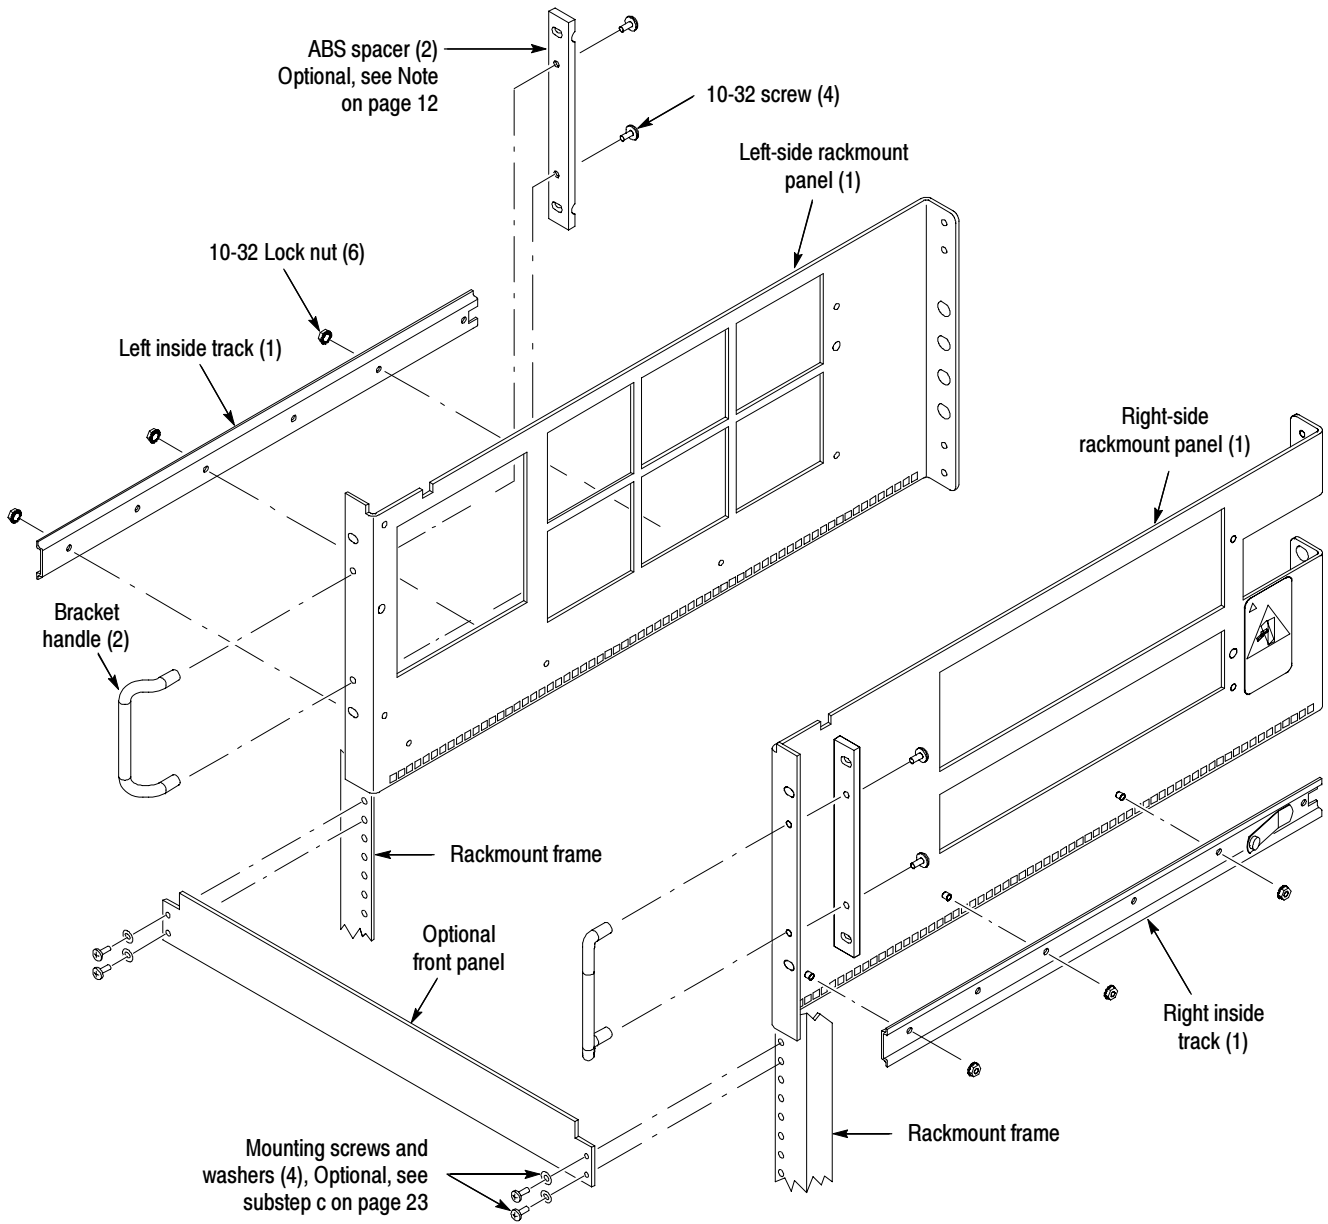

Figure 5: Rackmount panel preassembly
NOTE. *Preassemble all subparts on the right- and left-side panels before installing the rackmount panels on the instrument. Refer to Figure 5 on page 11.*
- b. Secure by using the two 10-32 pan head, Phillips drive screws. Apply 15 inch-lbs of torque to the screws. Refer to Figure 5 on page 11.